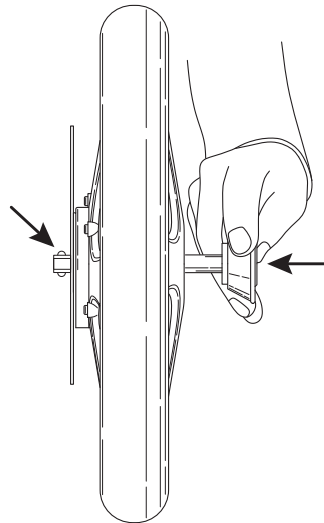

Fig. 1
2. Using your thumb press the black button on the QR axle and push it through the wheel so that a small part of the axle with the two balls protrudes on the inner side of the wheel (Fig. 1).
1. Firstly, release the brake then push the black button on the QR axle. Pull the QR axle out of the axle tube as far as the wheel so that only a small part of the axle with the two balls is visible on the inner side of the wheel. (Fig. 1)